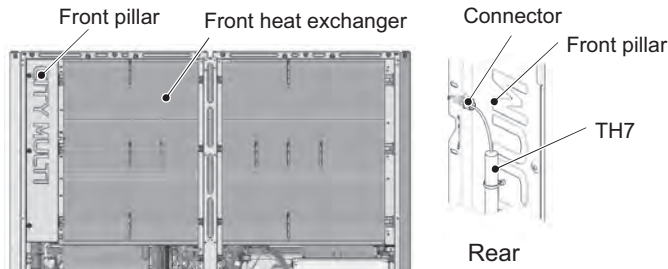

Figure 14
Removing the standard front heat exchanger (Figure 14)
- (12) Remove the front pillar by unscrewing the 7 screws. (See Figure 14.)
(13) Disconnect the TH7 sensor holder from the front pillar. (See Figure 14 Rear.)